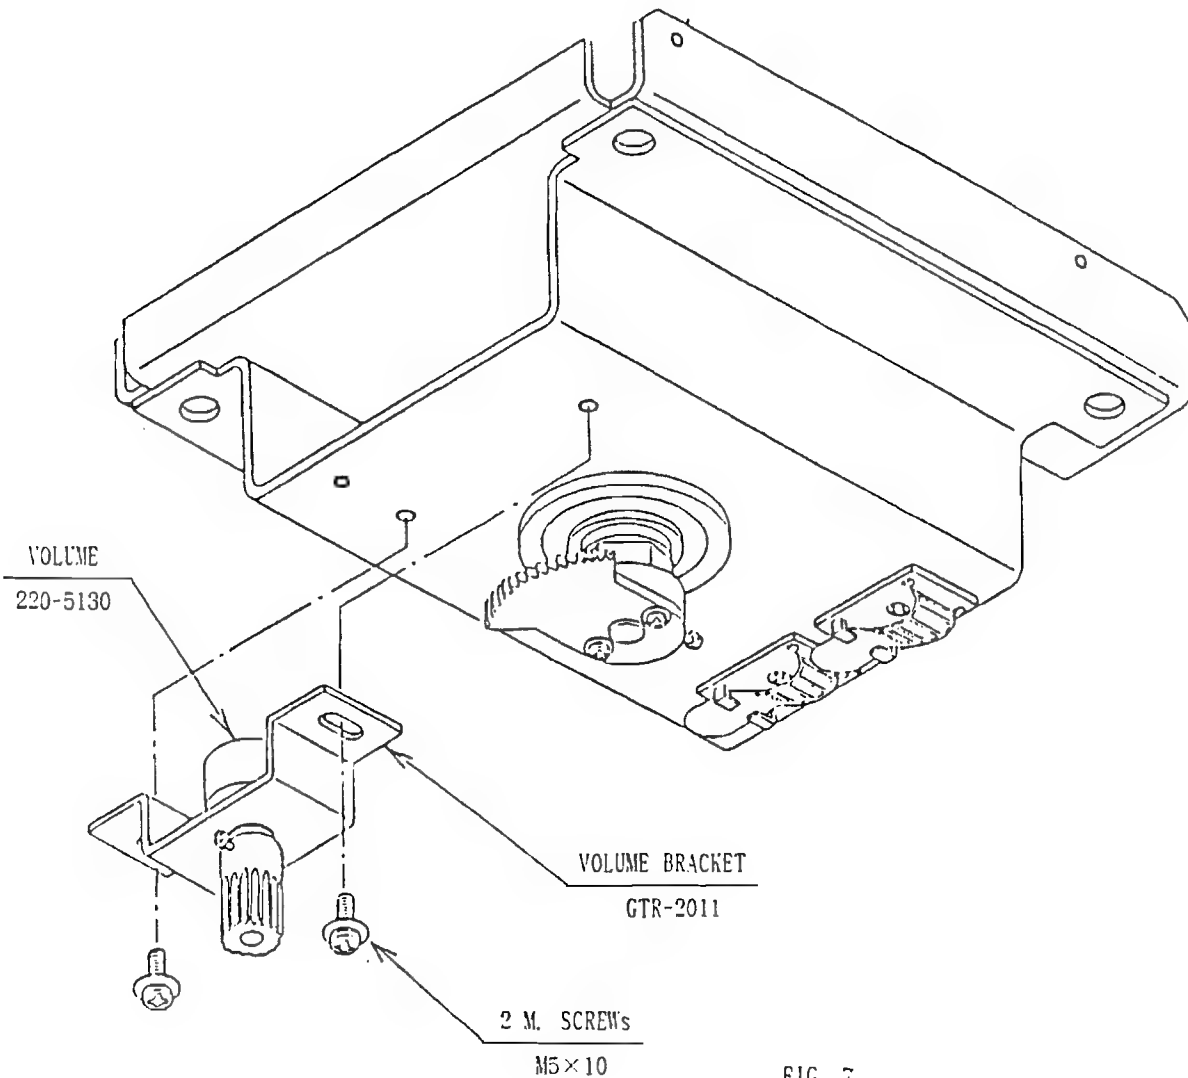

FIG. 7
(2) REMOVING THE VOLUME FOR HORIZONTAL DIRECTIONS
- ① Take off the 2 machine screws (M5×10) and remove the VOLUME together with the VOLUME BRACKET (see FIG.7).